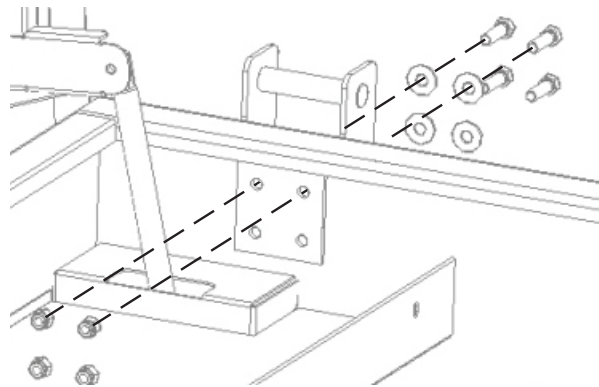

Figure 3 (Piano Box shown)
4. Mount brackets with fasteners as shown in Fig. 3, and torque to 47 Ft. Lbs (6,5 kg/m). All four brackets must be used.